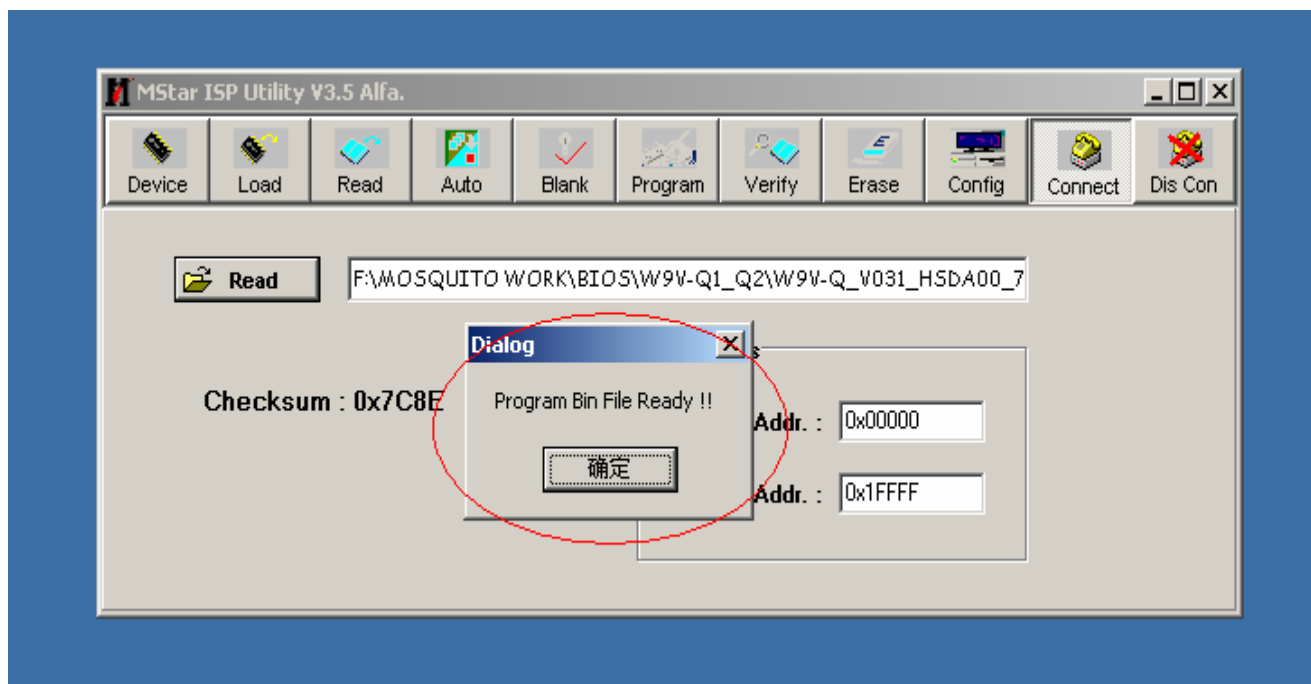

Fig. 1.6
1.5 When the file of BIOS has been selected ,you will see the dialog,see Fig1.6